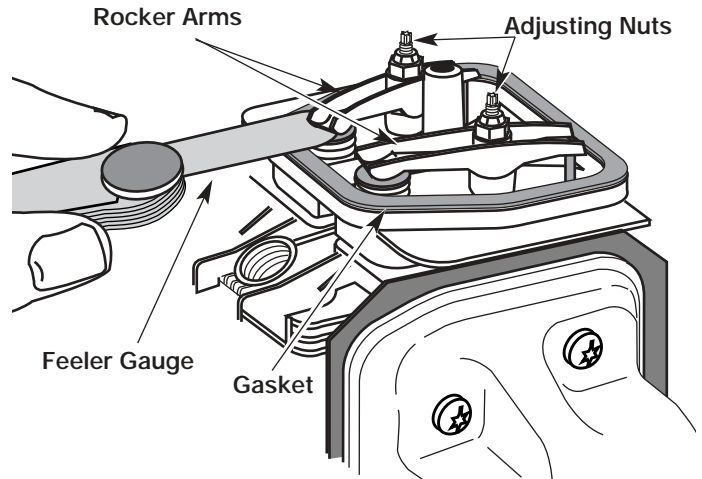

Fig. 31
9. Slide the feeler gauge between the rocker arm and the valve return spring. Measure the clearance between the valve stem and rocker arm (Fig. 31). Do both intake and exhaust valves.